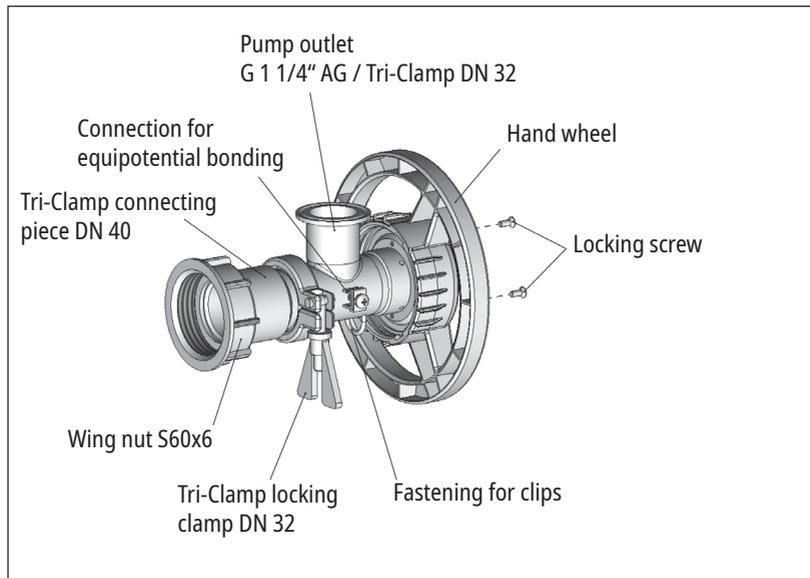

Fig. 1A
- ✓ For pumps made of stainless steel, the fixing screws on the pump tube are tightened firmly (→ Fig. 1A)